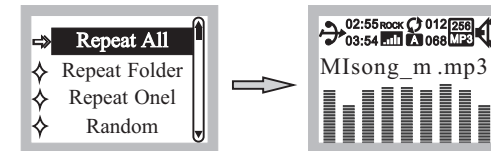

Fig. 12
(F) Repeat Mode: Press PRV/TEN or NEXT/TEN to select parameter, Fig. 12.
- (1) Repeat All:
- (2) Repeat Folder:
- (3) Repeat One:
- (4) Random: